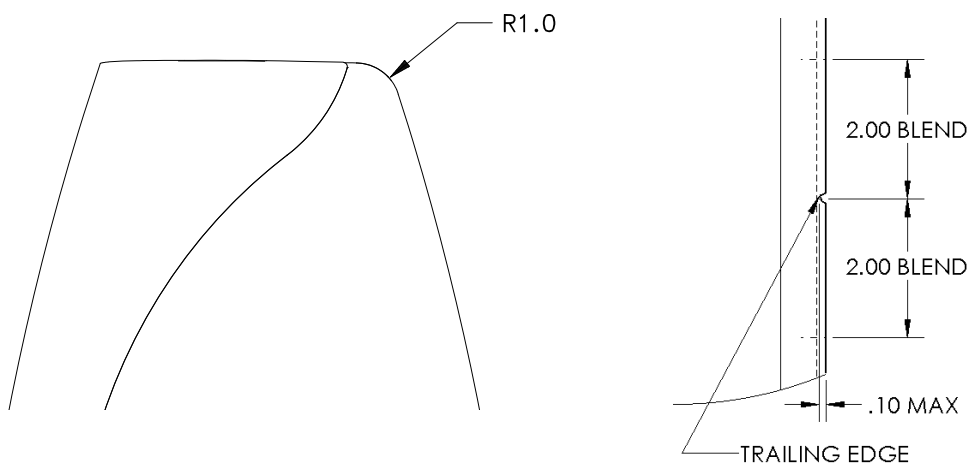

Figure 5-1
- e. Scratches, nicks, or fiber damage in the extreme trailing edge 0.10 deep or less may be blended out over a distance of at least 2.0 inches each side of the damage. See Figure 5-1 below.
- f. Damage at the tip trailing edge may be removed by blending up to a 1.0 inch radius at the tip. See Figure 5-1 below.